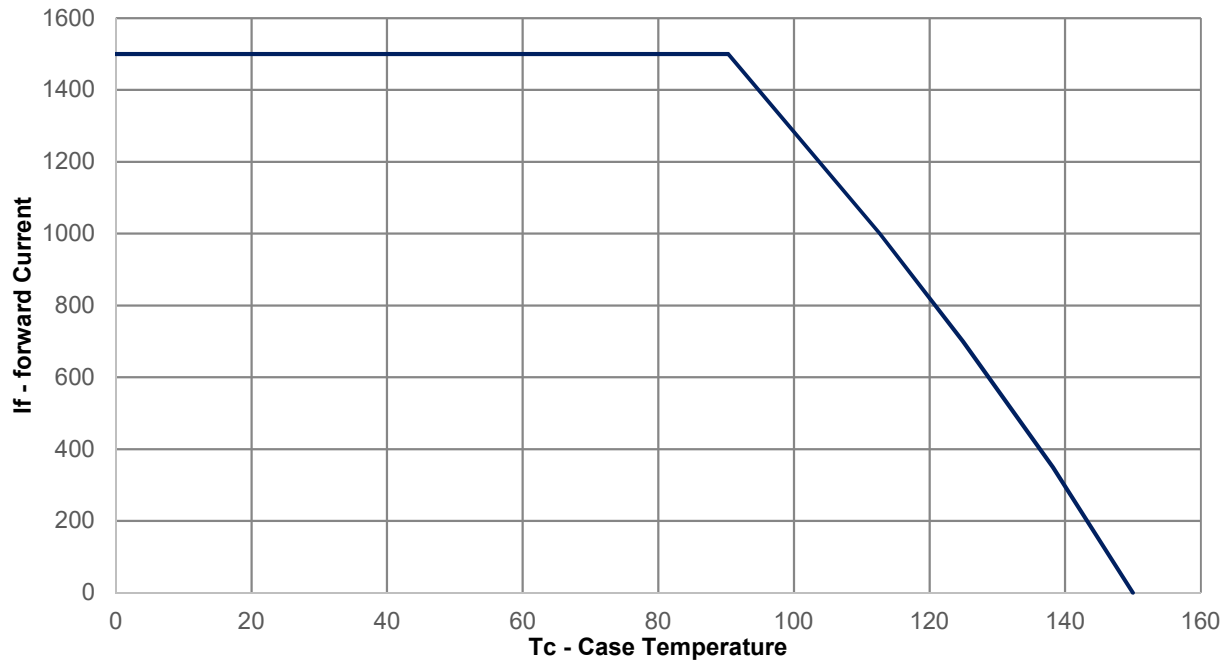

Figure 9: Maximum forward current vs. case temperature based on T_{J(MAX)} = 150°C
- Maximum DC forward current is determined by thermal resistance and case temperature. Follow Figure 9 for current derating.
Notes for Figure 9: